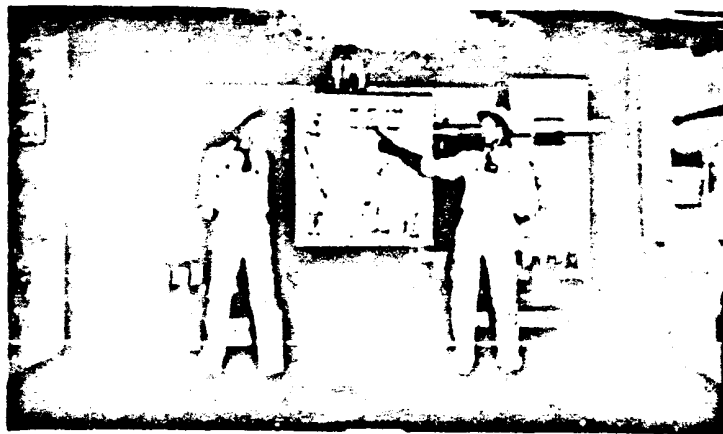

Fig. 1
3. To develop the ability in 4-H Club members to express themselves in public, thus giving them an experience which will be valuable no matter what vocation they may take up in the future. (Fig. 1 and 15)